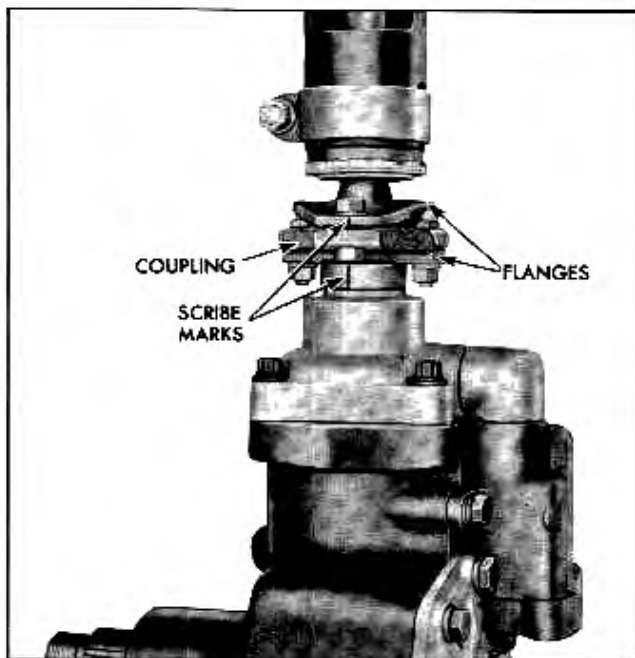

Fig. 9-24 Alignment Marks on Steering Flanges
1. Scribe alignment marks on steering shaft and worm shaft flanges (Fig. 9-24).